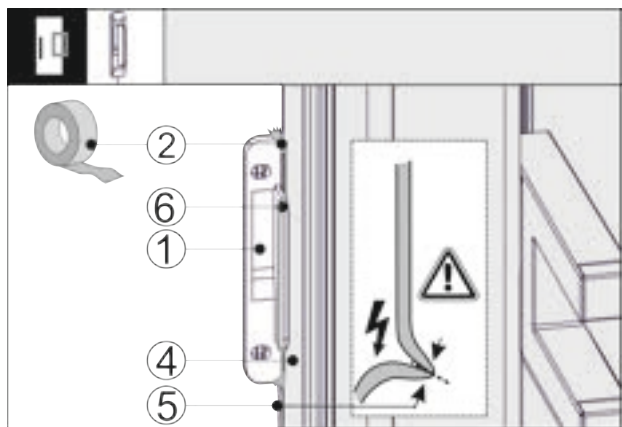

Fig. 42
- Place the knocking sensor Fig. 42 (1) on the side of the appliance door Fig. 42 (4) so that the stop Fig. 42 (6) touches the appliance door Fig. 42 (4). The sensor cable Fig. 42 (5) is slightly tensioned and also touches the appliance door Fig. 42 (4).
- Attach the knocking sensor Fig. 42 (1) with adhesive tape Fig. 42 (2). The knocking sensor is later screwed onto the cabinet front.